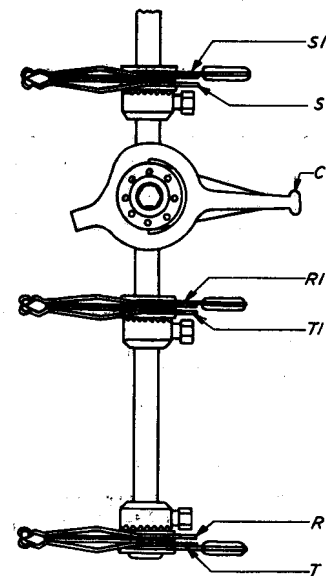

Fig. 92 — Bank Wiper Terminal Designations — 197- and 198-Type Switches
**3.03 Wipers:** When it is necessary to connect to one or more wipers of a switch, the wipers to which connections should be made are indicated by the symbol WPR followed by the particular designation of that wiper as shown on the associated circuit schematic drawing. The bank wipers referred to in the circuit requirements table appear on the schematic drawing in the same order in which they are located on the switch shaft. Fig. 92 shows the relative location of the wipers on a 200-point line finder and the designations given for them on the schematic drawing. On switches having four bank wipers, the wipers are designated as shown in Fig. 92 except that the added wiper at the bottom has the designation A1 and A.